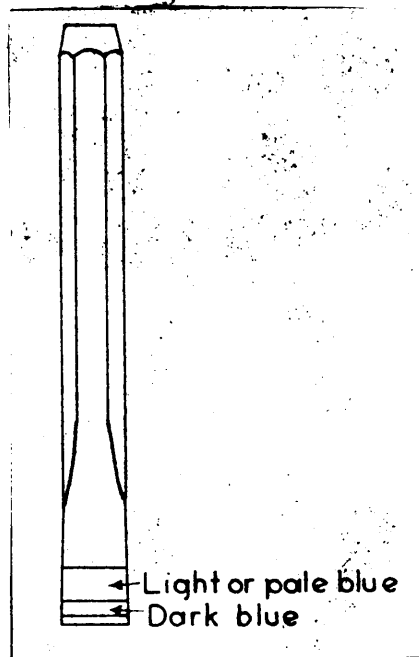

Figure 5.
6. When the color representing the required degree of hardness for the tool reaches the end, plunge into water immediately. (Figure 5) Keep the whole chisel under water until cooled. For ordinary cold chisels, purple or dark blue are the proper colors. For other tools, see chart.